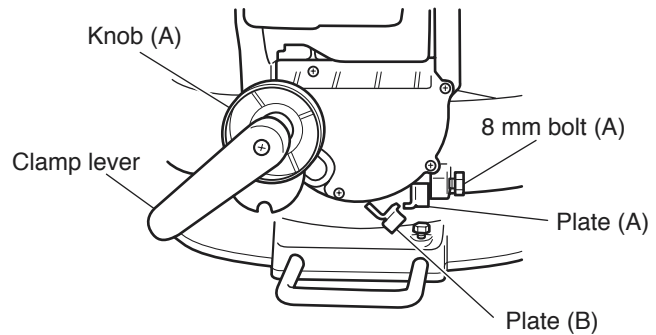

Fig. 15-2
- (1) Turning on the digital display switch shows  $0^\circ$  for both miter and bevel angle, regardless of main unit angle.
- (2) Align the main unit angle with the tilt angle ( $0^\circ$ ) and miter angle ( $0^\circ$ ) and hold down their reset buttons for at least 0.2 second.
- (3) Turning on the laser marker switch while the digital display switch is on, lights up the laser marker. (On the Model C 12FCH, only the laser marker switch.)
- If there is a malfunction on digital display because of power supply noise, turn the digital display switch OFF and perform the procedures (1) and (2) in 8-5 to reset it.
- The digital display may show a deviated value if the flush surfaces for the bevel angle adjustment bolt are worn (plates (A) and (B) in Fig. 15-2). Instruct the customers to adjust the angle according to section 9-1 in this case.
**NOTE: Do not adjust the 8 mm nylock bolt with plates (A) and (B) (Fig. 15-2) pulled.**